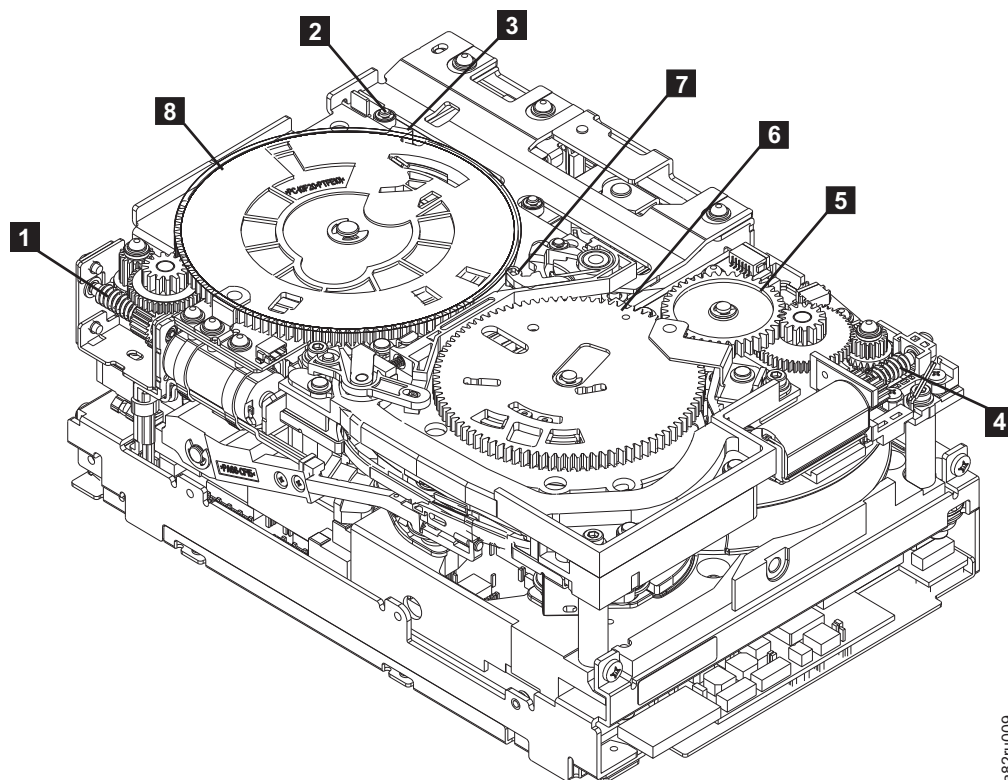
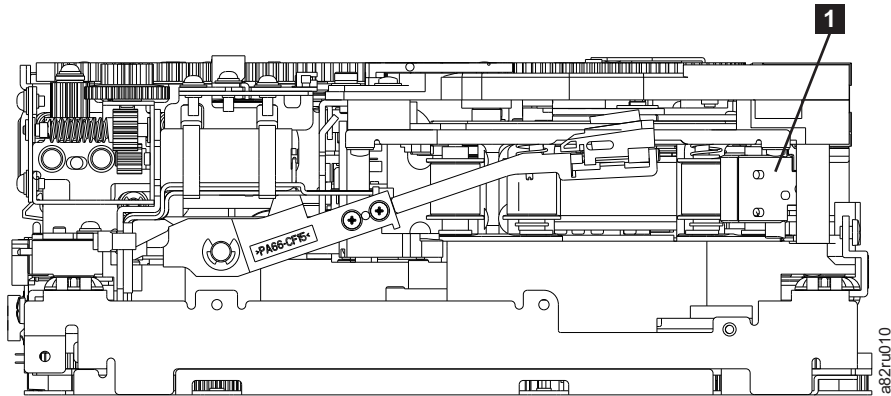

Figure A-16. Drive with cover removed to reveal gear train.
Figure A-17. Leader Block Assembly (LBA)
6. Locate the threader motor worm gear (**4** in Figure A-16 on page A-17) on the rear of the drive. Use your finger to rotate the threader motor worm gear and slowly rotate the threader mechanism gear (**6** in Figure A-16 on page A-17) clockwise. This action rotates the threader motor worm gear (**4** in Figure A-16 on page A-17) clockwise, drawing the LBA into the cartridge.
7. As the tape leader block assembly (LBA) is secured in the cartridge, you hear the LBA retention spring clips click into place. If you do not hear the click, continue rolling until the threader motor worm gear (**4** in Figure A-16) stops. The LBA is in the correct position.
- a. Loader mechanism gear (**6** in Figure A-16) nearest the front of the drive that actuates the cartridge loader mechanism.
- b. Position of the rotate stub (**3** in Figure A-16).
- c. Front loader motor worm gear (**1** in Figure A-16). Rotating this gear allows the loader mechanism gear (**8** in Figure A-16) to turn.
9. Rotate the loader motor worm gear (**1** in Figure A-16) to turn the threader mechanism gear (**6** in Figure A-16) counterclockwise. Continue turning until the rotator stub (**3** in Figure A-16) loses contact with the lever (**7** in Figure A-16). This action releases the LBA leader pin.
10. Rotate the threader motor worm gear (**4** in Figure A-16 on page A-17) to turn the threader mechanism gear (**6** in Figure A-16 on page A-17) counterclockwise. This action moves the LBA out of the cartridge and past the read/write head. Stop this rotation when the LBA is near the tape guide roller nearest the rear of the drive that is shown as **1** Figure A-17.
11. Continue rotating the loader motor worm gear (**1** in Figure A-16 on page A-17) until the rotator stub (**3** in Figure A-16 on page A-17) is positioned as shown. Notice that the rotator stub (**3** in Figure A-16 on page A-17) is nearly aligned with the cartridge loader tray guide bearing (**2** in Figure A-16 on page A-17).